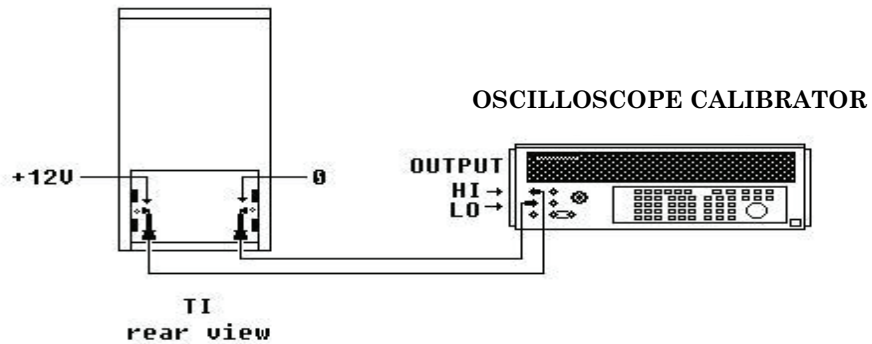

Figure 8. 12 V hookup.
(1) Before doing the complete adjustments, exit program and use oscilloscope software Refresh Utility Disk, supplied with TI, to refresh Flash ROMS.
(2) A person should be familiar with the Refresh Utility Disk before starting the Calibration constants restoration.
(3) Press TI **ON/OFF** key to **OFF** and remove all connections.
(4) Remove TI battery compartment cover and battery pack.
(5) Connect **PM 8907/803 AC/DC ADAPTOR** supplied with TI to a 115 Vac power source.
(6) Insert **PM 8907/803 AC/DC ADAPTOR** low voltage plug into TI right side **POWER ADAPTOR** connector.
(7) Connect equipment as shown in figure 8 below: